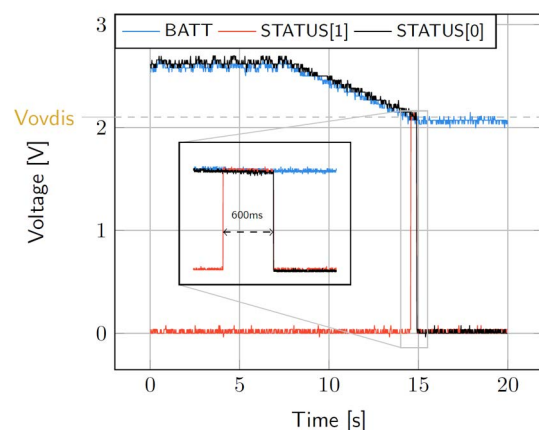

Figure 4: LDOs disabled around 600 ms after **BATT** reaches  $V_{ovdis}$
**BATT**: Voltage decreases as the system consumes the power accumulated in the storage element. The voltage remains stable after crossing  $V_{OVDIS}$  (see Figure 4).
**STATUS[0]**: De-asserted when the LDOs are no longer available as the storage element is running out of energy. This happens 600 ms after **STATUS[1]** assertion (see Figure 4).
**STATUS[1]**: Asserted for 600ms when the storage element voltage (**BATT**) falls below  $V_{OVDIS}$  (see Figure 4).